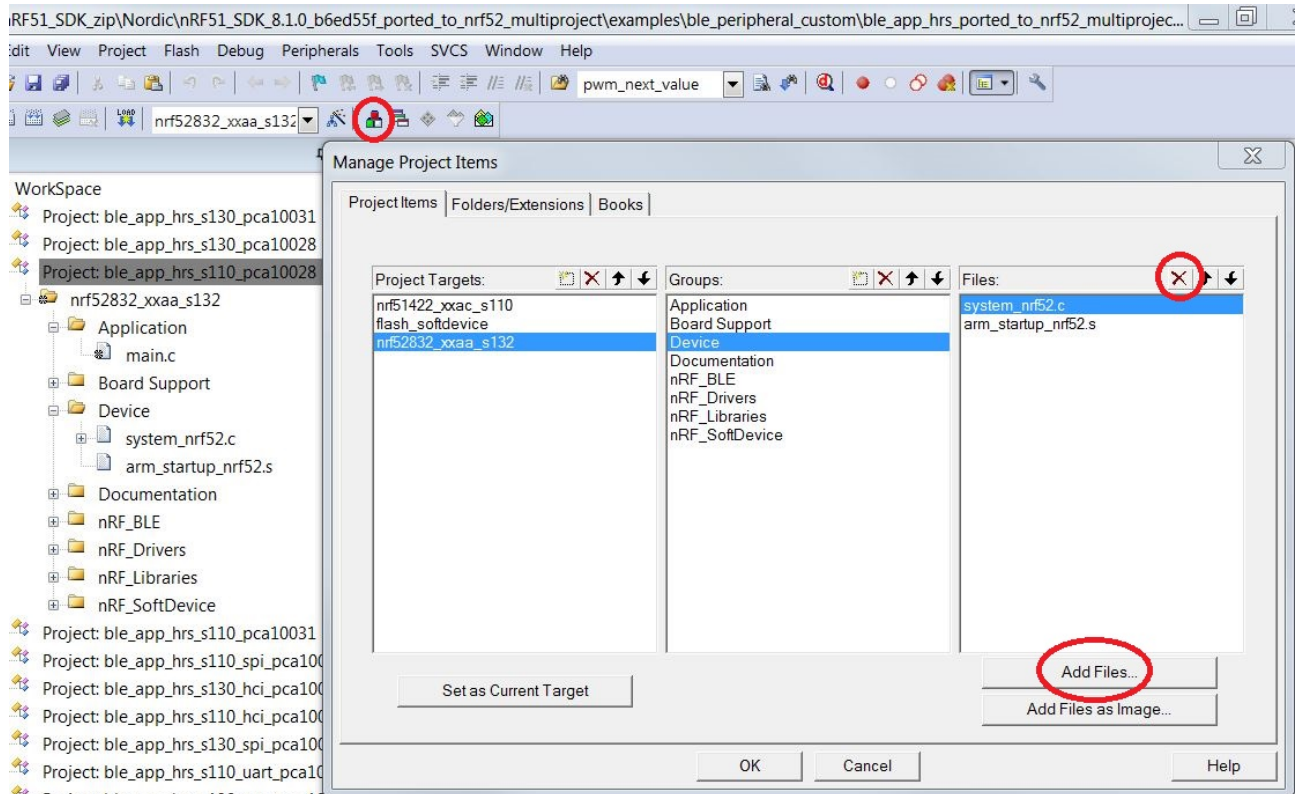

Figure 3: Replacing nRF51 Series startup files with nRF52 Series startup files
- b. Copy the nRF52 startup files from nRF52 SDK 0.9.0 into the project. Include the nRF52 startup files `arm_startup_nrf52.s` and `system_nrf52.c` in the project, as shown in Figure 3: Replacing nRF51 Series startup files with nRF52 Series startup files on page 13.